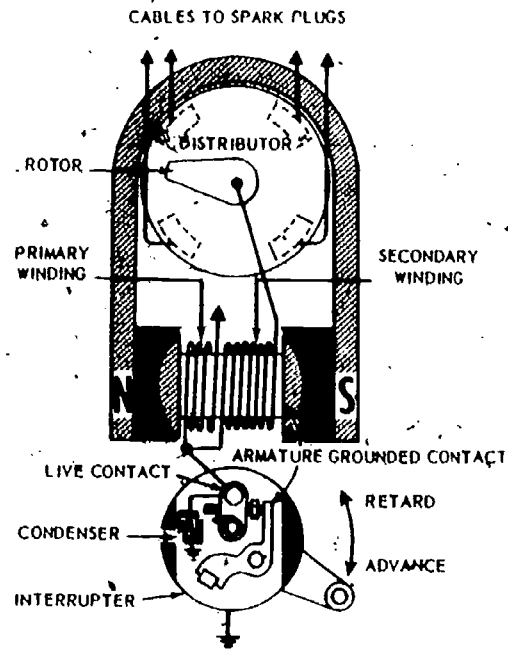

Fig 2-25. Circuits of a high-tension magneto.
1. Principles of operation (fig 2-25).